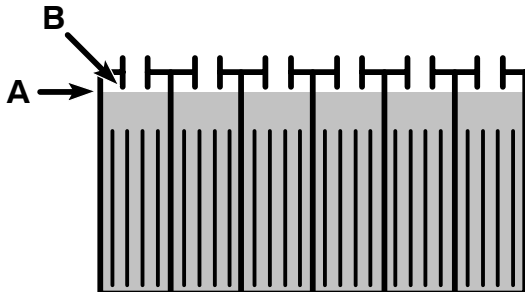

FIG. 42
- Check the electrolyte level (A) in each battery cell **after charging batteries**. The level should be approximately 1 cm (3/8 in) from the bottom of the fill-port (B). Add distilled water if needed (Figure 42).